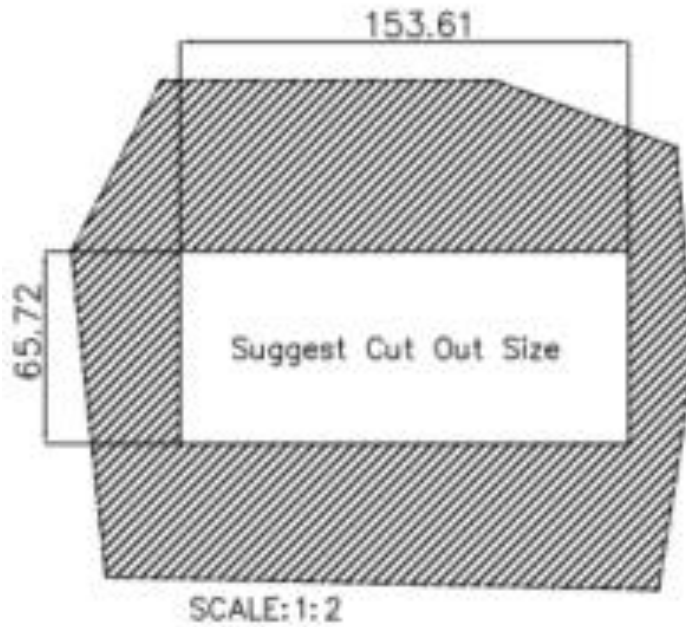
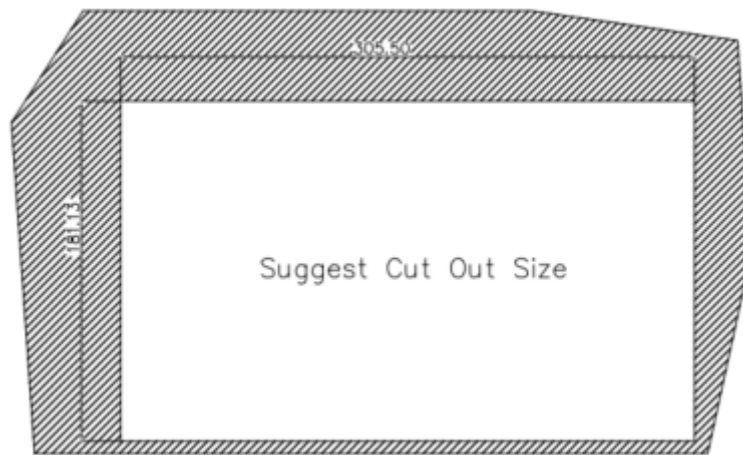

Figure 3-12: PPC2-CW123-EHL Panel Cutout Dimensions
Figure 3-13: PPC2-CW133-EHL Panel Cutout Dimensions
- Step 2:** Cut out a section of the panel that corresponds to the rear panel dimensions of the PPC2-CW123/133-EHL. The recommended cutout sizes are shown below (**Figure 3-12, Figure 3-13**).